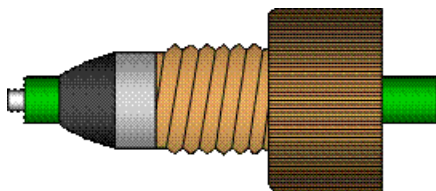

Figure 13 Nebulizer Inlet Fitting
- 4 Screw the inlet fitting into the bulkhead on the left side of the compartment. Special care must be taken when positioning this fitting. The nebulizer is terminated with a small piece of Teflon tubing with an outer green sleeve. For proper operation, the Teflon tubing must extend less than 2 mm past the end of the green sleeve (Figure 13).